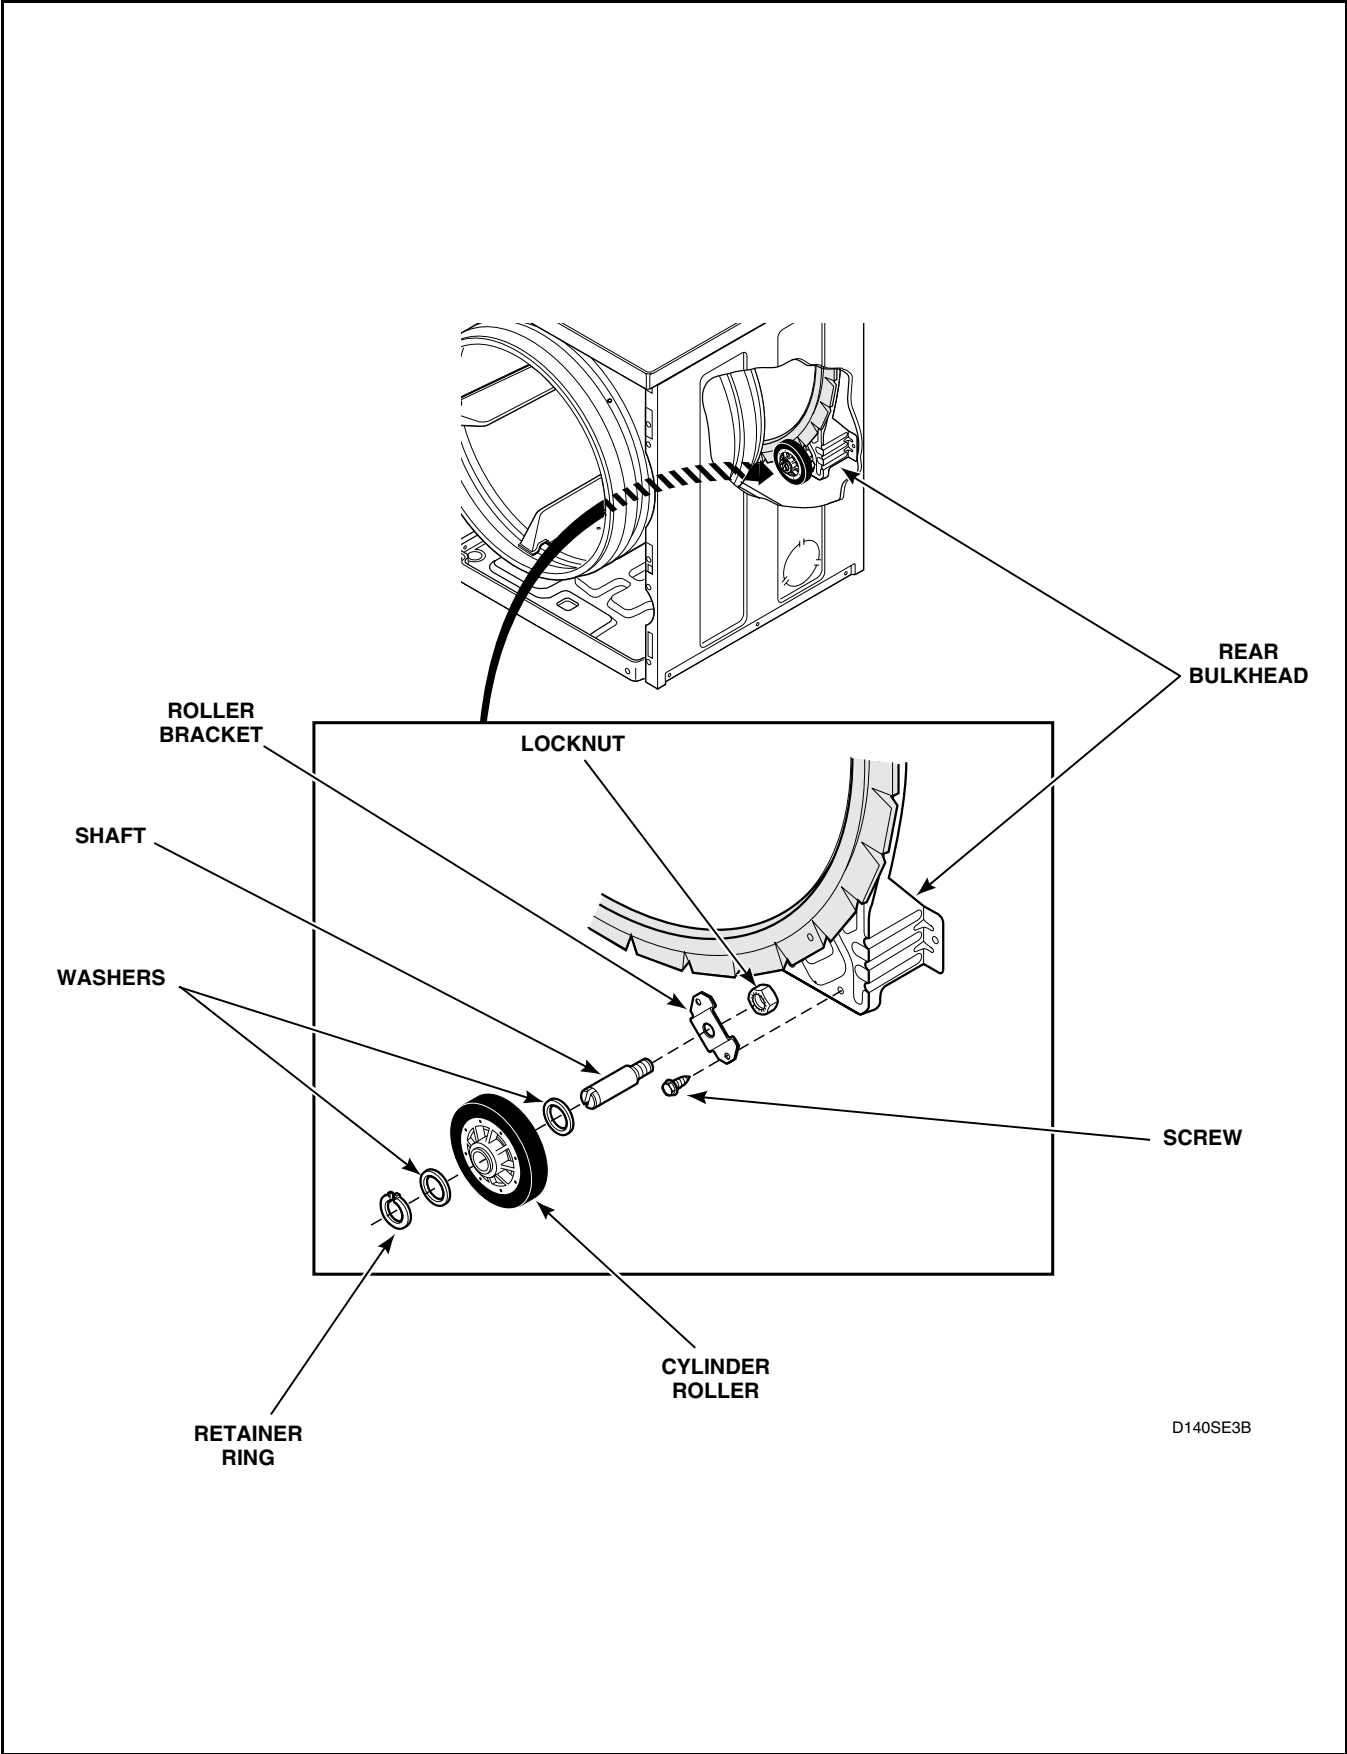

Figure 55
- g. Pull cylinder forward allowing rear of cylinder to drop down exposing rollers. Refer to *Figure 55*.
- h. Refer to *Figure 55* for removal of roller from bulkhead.